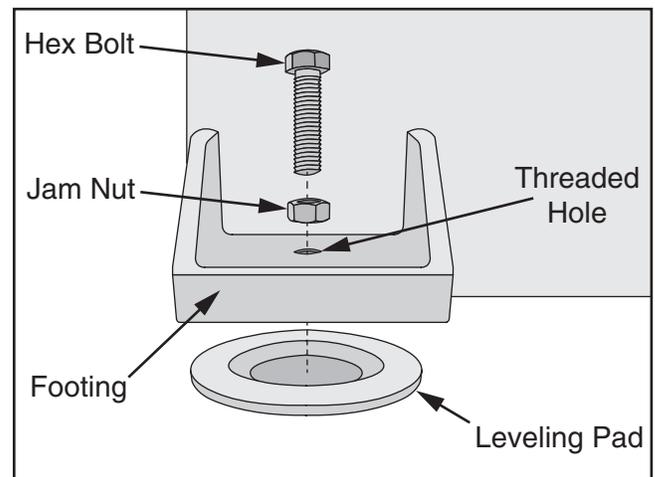

Figure 17. Leveling hardware orientation (1 of 4).
1. Slide (4) leveling pads under (4) footings at corners of machine, as shown in **Figure 17**. Make sure center of threaded hole in footing aligns with center of leveling pad.
2. Insert (4) M16-1.5 x 75 hex bolts with (4) M16-1.5 jam nuts into (4) threaded holes in footings, as shown in **Figure 17**.